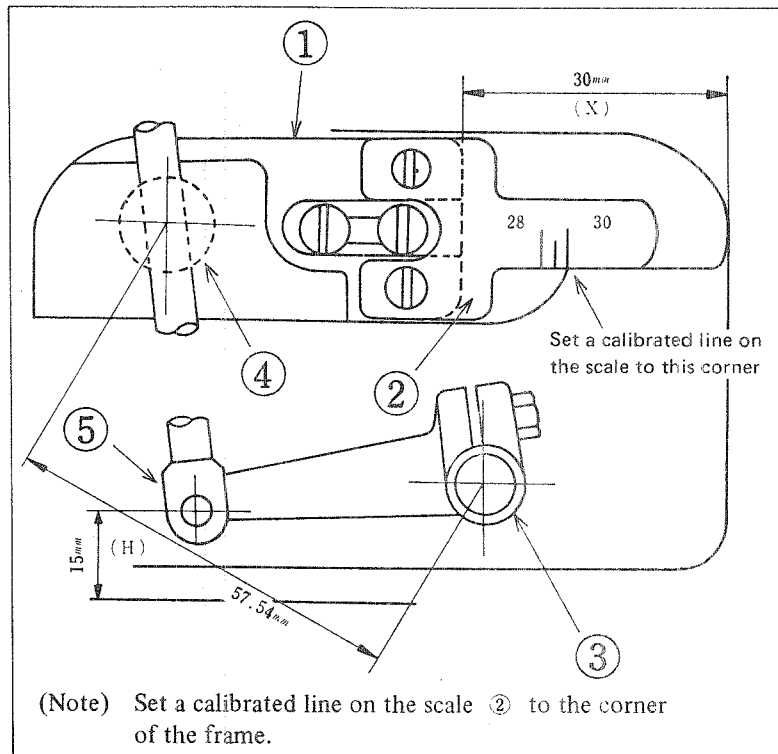

Fig. 7
(1) Upper looper guide retainer (Fig. 7)
Flatly fix the upper looper guide ① according to Table 3 by keeping it close to the frame surface. The standard distance "X" from the retainer and the frame edge is 30 mm (1-11/64") as shown in Fig. 7. This adjustment will provide a distance of 57.54 mm (2-17/64") between the axes of upper looper shaft ③ and upper looper guide ④. Do not slant the upper looper guide retainer, or you will fail to provide the correct distance between ③ and ④.
(2) Upper looper shaft driving arm (Fig. 7)